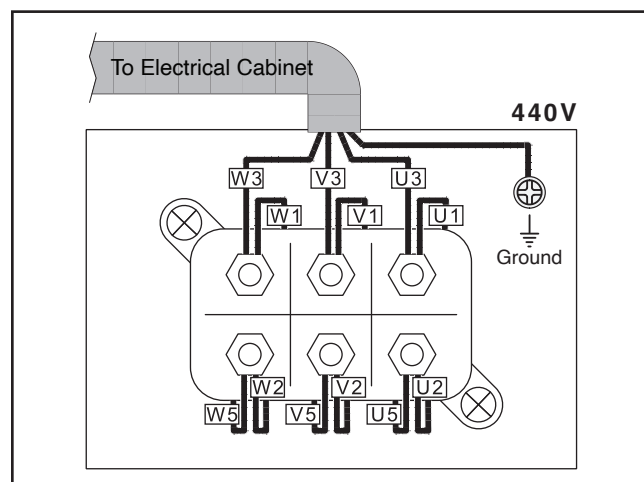

Figure 16. Feed motor wiring (440V).
15. Disconnect wire W5 and move to terminal with wire W2, as shown in **Figure 16**.
16. Disconnect wire V5 and move to terminal with wire V2, as shown in **Figure 16**.
17. Disconnect wire U5 and move to terminal with wire U2, as shown in **Figure 16**.